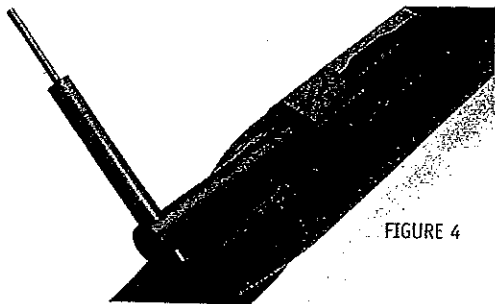

FIGURE 4
4. **REMOVE BREECH PLUG.** Use the special breech plug wrench shipped with your rifle (See FIGURE 4). Insert wrench from the rear of the receiver until it fits snugly into the notches at the rear of the breech plug. Unthread the breech plug from the barrel by turning counter clockwise. **YOUR RIFLE CAN NOW BE CLEANED FROM THE BREECH END OF THE BARREL.**